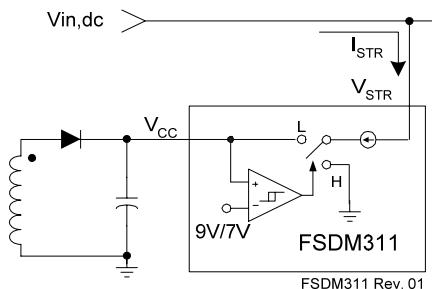

Figure 15. Internal Startup Circuit
1. Start-up: At start-up, the internal high-voltage current source supplies the internal bias and charges the external V_{CC} capacitor, as shown in Figure 15. In the case of the FSDM311, when V_{CC} reaches 9V, the device starts switching and the internal high-voltage current source stops charging the capacitor. The device is in normal operation provided that V_{CC} does not drop below 7V. After start-up, the bias is supplied from the auxiliary transformer winding.